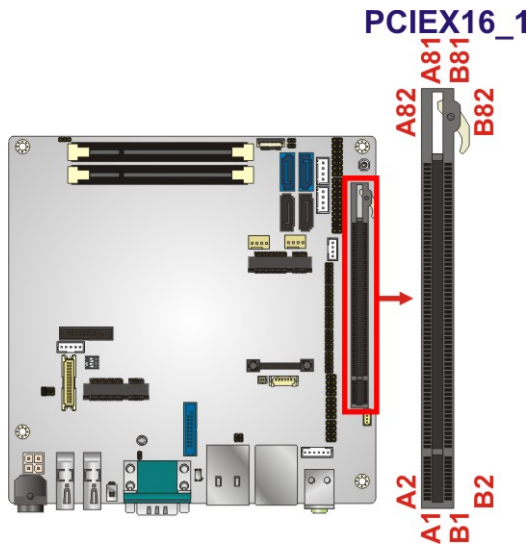

Figure 3-18: PCIe x16 Slot Location
- CN Location:** See **Figure 3-18**